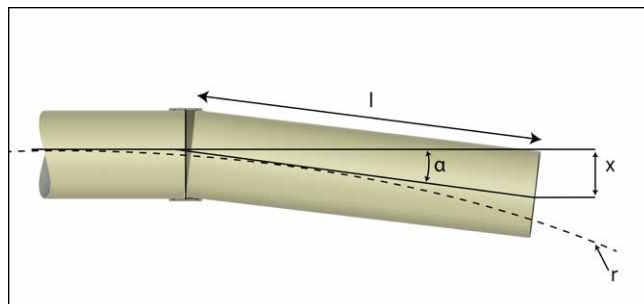

Fig. 33: Coupling, angular joint deflection
5.2.1.9. Angular deflection (Fig. 33)